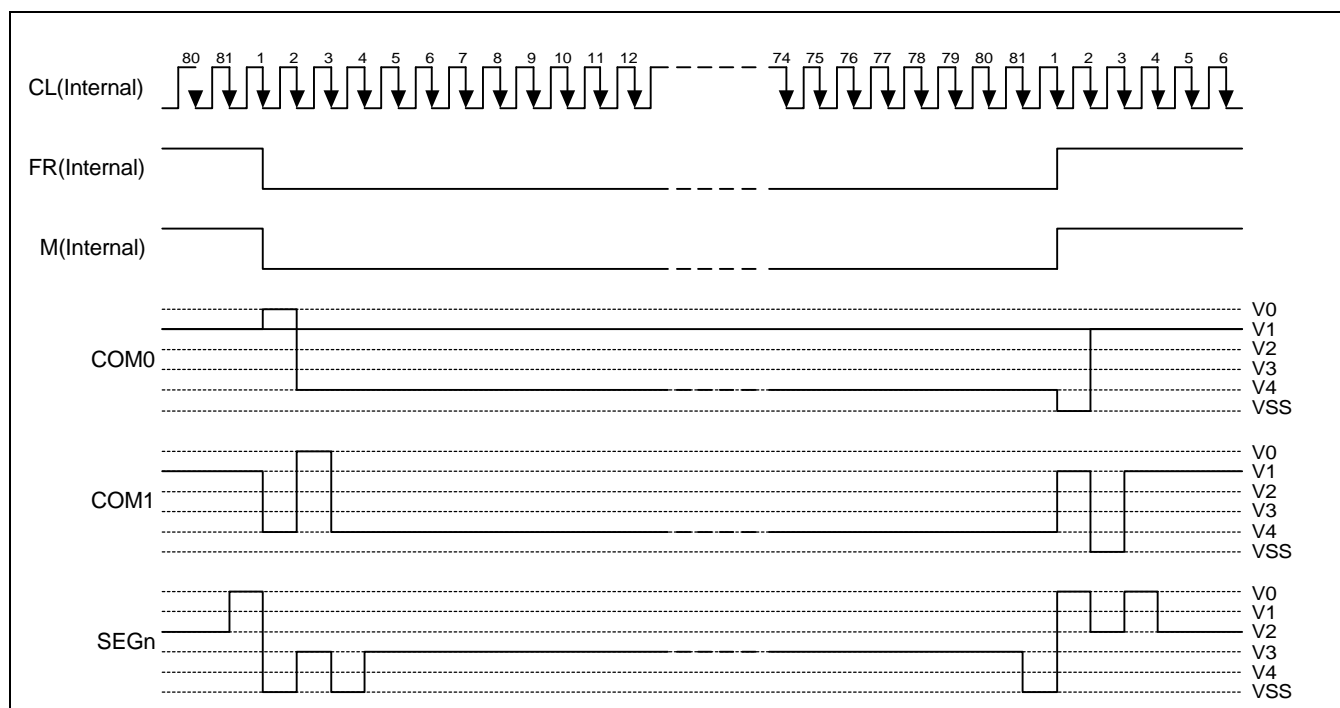

Figure 11. 2-frame AC Driving Waveform (Duty Ratio = 1/81)
This circuit generates some signals to be used for displaying LCD. The display clock, CL(internal), generated by oscillation clock, generates the clock for the line counter and the signal for the display data latch. The line address of on-chip RAM is generated in synchronization with the display clock and the display data latch circuit latches the 128-bit display data in synchronization with the display clock. The display data, which is read to the LCD driver, is completely independent of the access to the display data RAM from the microprocessor. The display clock generates an LCD AC signal (M) which enables the LCD driver to make a AC drive waveform, and also generates an internal common timing signal and start signal to the common driver. The frame signal or the line signal changes the M by setting internal instruction. Driving waveform and internal timing signal are shown in Figure 11.